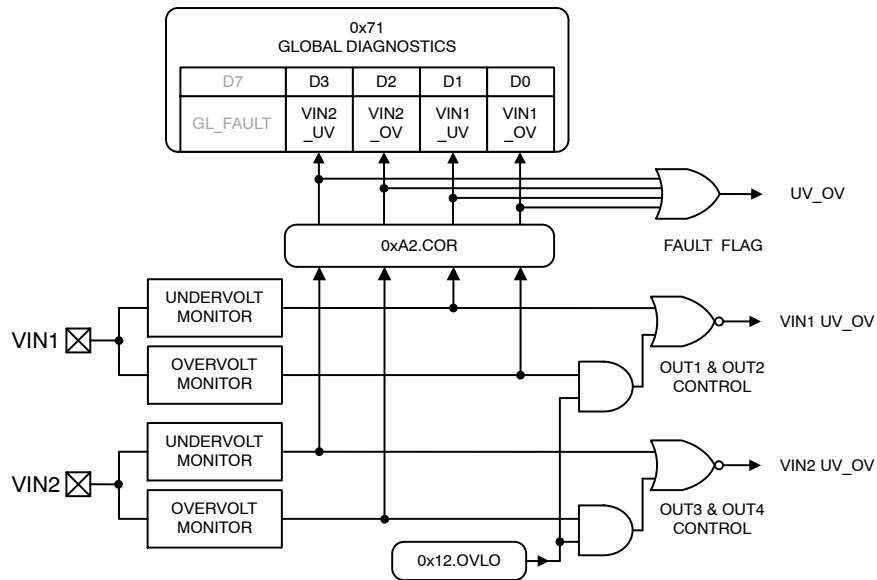

Figure 14. Global Diagnostics: Under/Over Voltage (UV/OV) Mapping and COR Configuration
Similarly and also in contrast to the GLOBAL DIAGNOSTICS register – which maps the individual global VINx undervoltage (UV) and VINx overvoltage (OV) fault types to the corresponding 0x71.VINx_UV and 0x71.VINx_OV bits (see Figure 14) – the fault pin mapping scheme combines *any* UV or OV fault type from *either* VINx, the result of which can be either blocked from or passed to the fault pin via the single ‘OV_UV’ fault type bit.